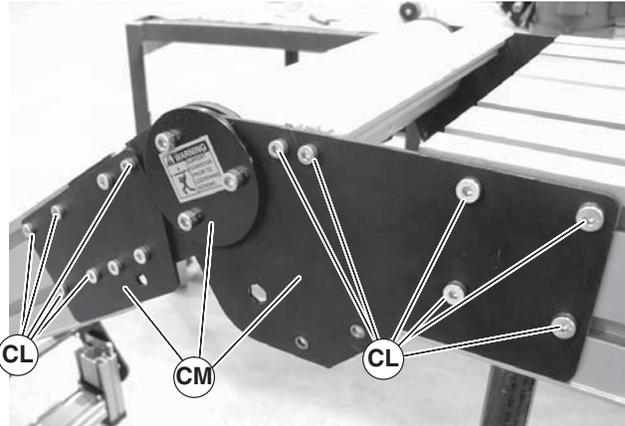

Figure 73
3. On one side of knuckle, remove screws (Figure 73, item CL) and knuckle plate assembly (CM).